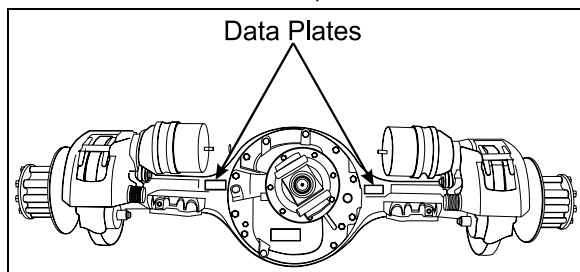

FIGURE 1: TYPICAL SERIAL & MODEL NUMBERS 11019
- FIGURE 1: TYPICAL SERIAL AND MODEL NUMBERS.....11-2
The Meritor drive axle is equipped with a single reduction standard carrier mounted in front of the axle housing. The carrier consists of a hypoid drive pinion, a ring gear set and gears in the differential assembly (refer to figure 1 for serial and model numbers).